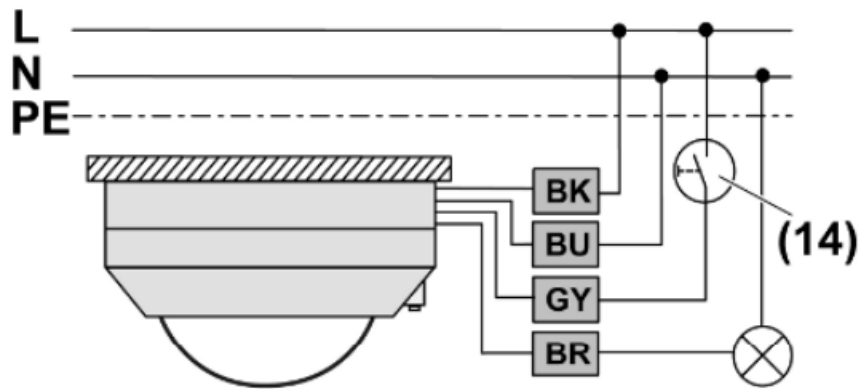
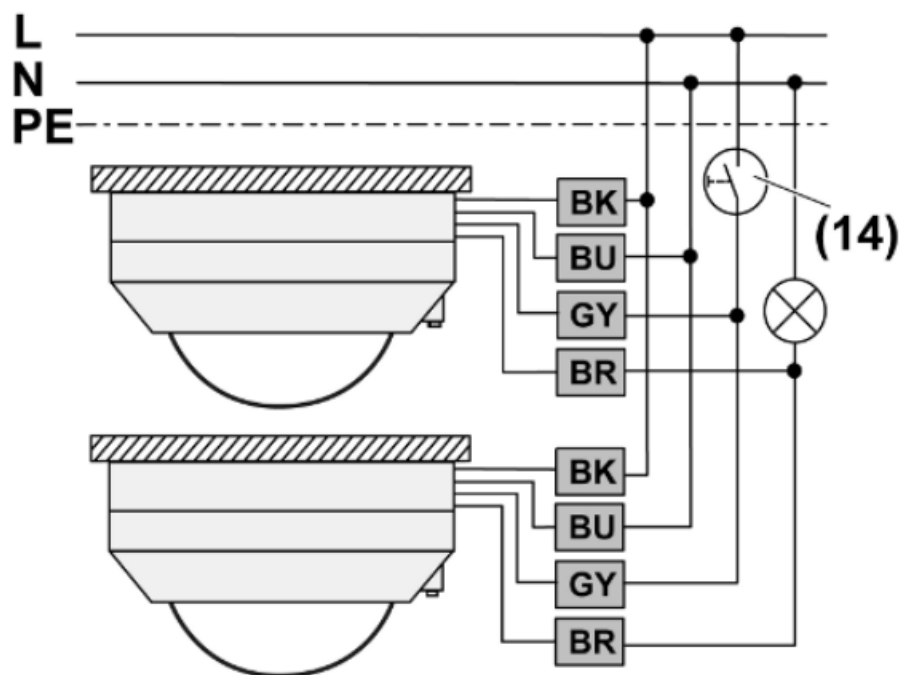

Figure 9: Connection diagram, single device
Figure 10: Connection diagram, parallel circuit for expanding the detection field
- Connect the sensor cover according to the connection diagram (see figure 9) or switch the sensor covers according to the circuit diagram (see figure 10).
- Connect optional push-button (14) (see figure 9) or (see figure 10). This is only necessary if manual operation is also desired.